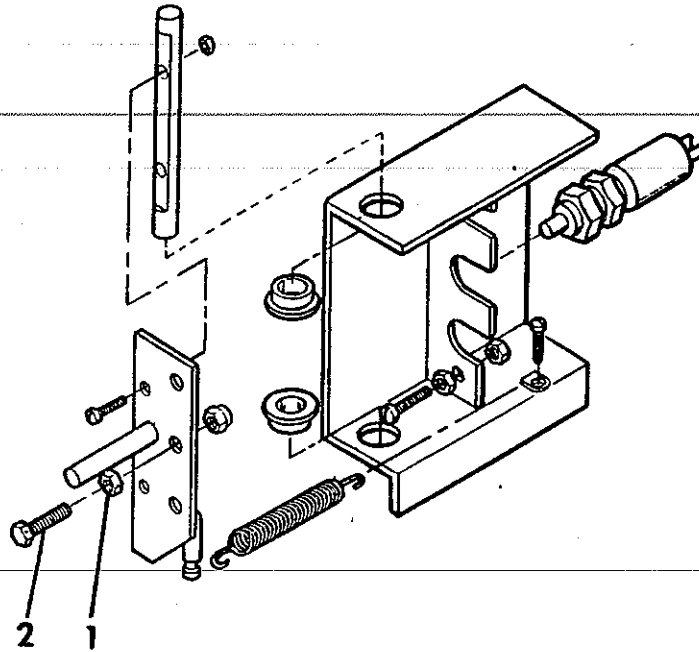

Figure 4-54. Switch Box
1. Locate the switch box on the floor board beneath the directional control pedal, see figure 4-54.
3. Loosen the lock nut (1).
4. Adjust the bolt (2). Turn the bolt in to make the option activate with more throw in reverse, out to make the option t work with less throw in reverse or in neutral.
5. Tighten lock nut (1).